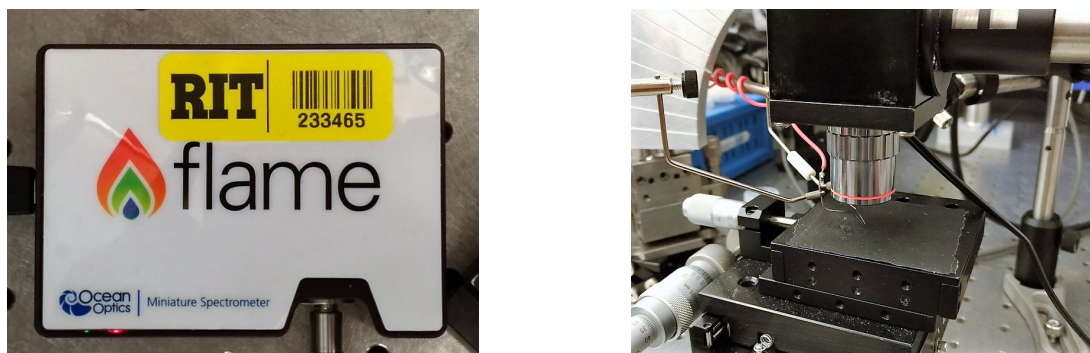

Figure 53. The electroluminescence measurement setup includes a rotating testing stage (right) and a FLAME 200 nm – 850 nm spectrometer (left).
The lab also includes an electroluminescence (EL) measurement setup (Figure 53) including a FLAME-S-UV-VIS-ES spectrometer (200 nm – 850 nm) and a rotatable stage that enables polarization-dependent and angle-dependent measurements.